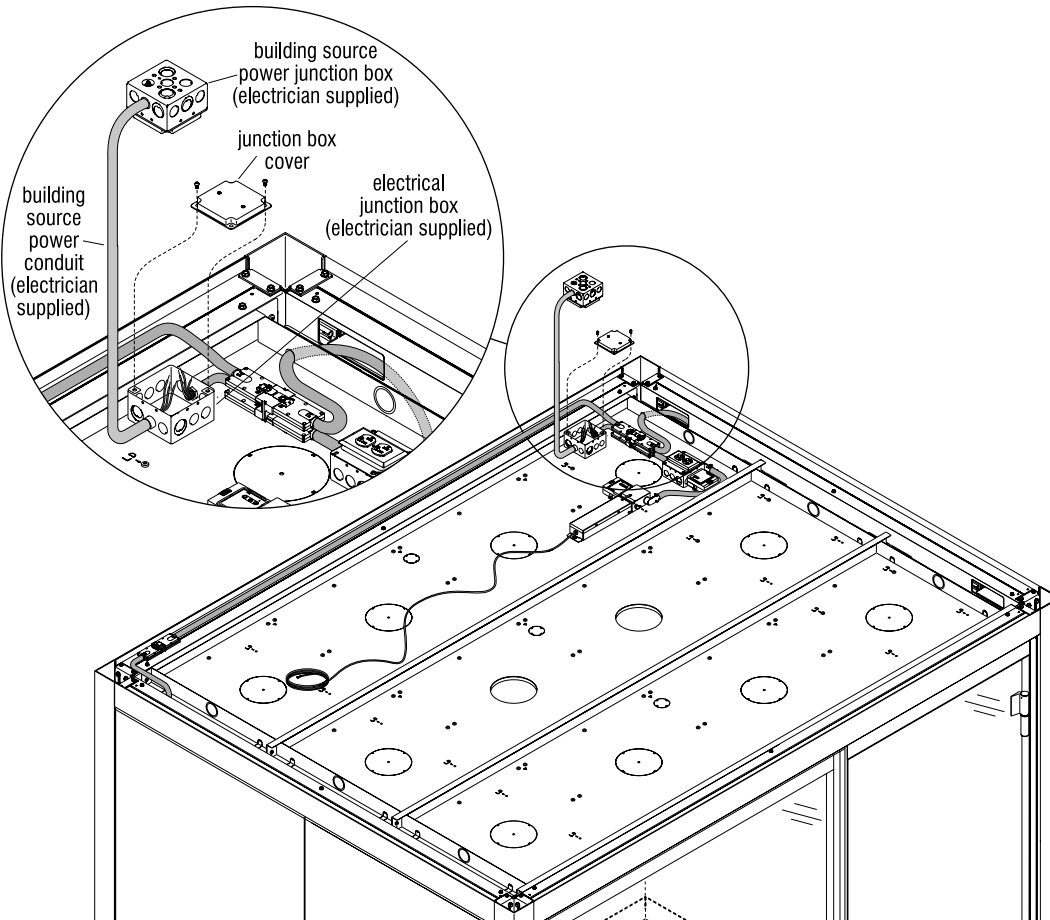

Figure 4
11. A certified electrician is to run wires and conduit from a building source power junction box, into the super structure's ceiling junction box, make wire connections and re-install the junction box cover as per all codes at the job site (Figure 4).